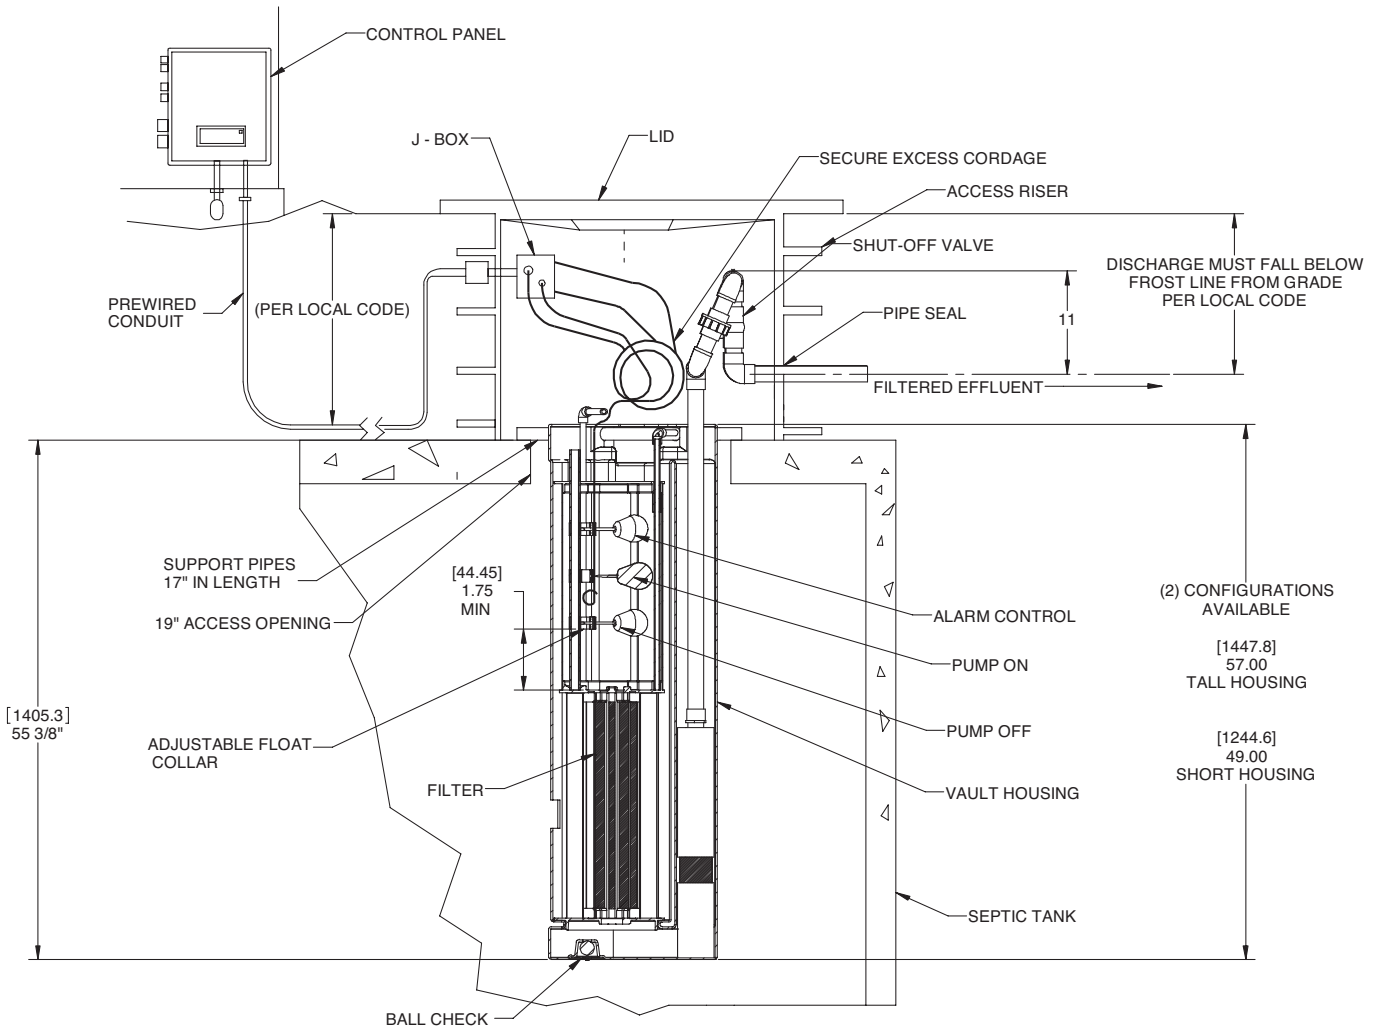

Figure 2
Step 8: If you removed the discharge pipe from the pump to cut and assemble the kit, reattach it to the pump. Lubricate the inside lip of the discharge grommet with pipe soap. Slide the discharge pipe through the grommet. Reinstall the pump and discharge piping into the pump chamber. Align the assembly as shown in Figure 2 and assemble the union. Close the shut-off valve and attach the discharge pipe to the lateral field pipe with PVC solvent/cement. It is strongly recommended that an additional shut-off valve and redundant check valve be located